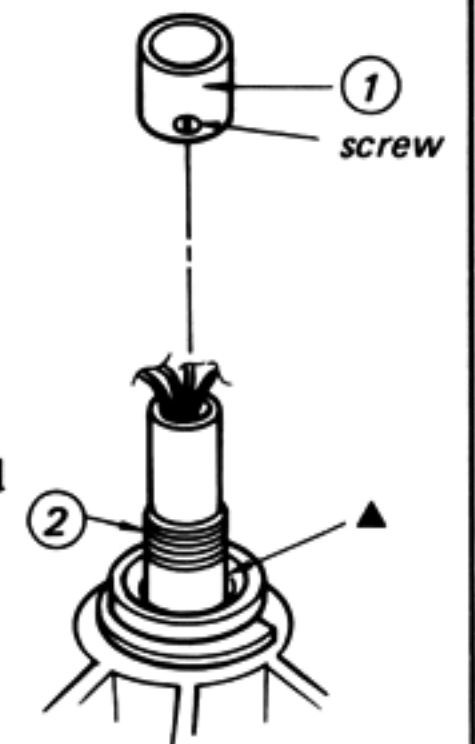

Fig. 3-8
6. Clean the portion marked ▲ in Fig. 3-8.
7. Put fourteen cleaned steel-balls into the portion marked by ▲ in Fig. 3-8.